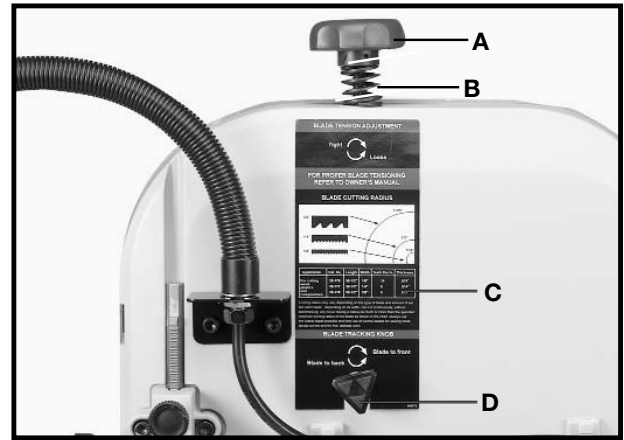

Fig. 19
1. After the desired blade is assembled to the two wheels, turn tension knob (A) Fig. 19, clockwise until spring (B) begins to compress.
2. Turn tension knob (A) Fig. 19, an additional 2-1/2 turns for 1/8 in. wide blades; 3 turns for 1/4 in. wide blades; and 4 turns for 3/8 in. wide blades.
3. A chart (C) Fig. 19, is located at the rear of the band saw. This chart shows blade size, and the minimum radius that can be cut with each size blade.
4. If an adjustment is necessary, **SLIGHTLY** turn blade tracking knob (D) Fig. 19, clockwise to move the blade to the rear, and counterclockwise to move the blade to the front. **NOTE:** Turn the blade tracking knob (D) in small intervals to adjust the blade tracking.